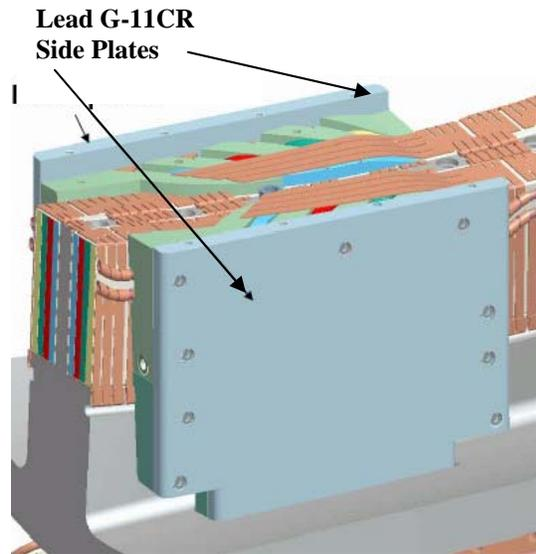

Figure 48- Lead Area Side Plates
- 6.45.3 Re-install the chill plate/side plate assembly and secure in place with the appropriate hardware. Repeat the assembly process for both sides “A” and “B”. [Figure 48- Lead Area Side Plates] Seal all seams with RTV-108.